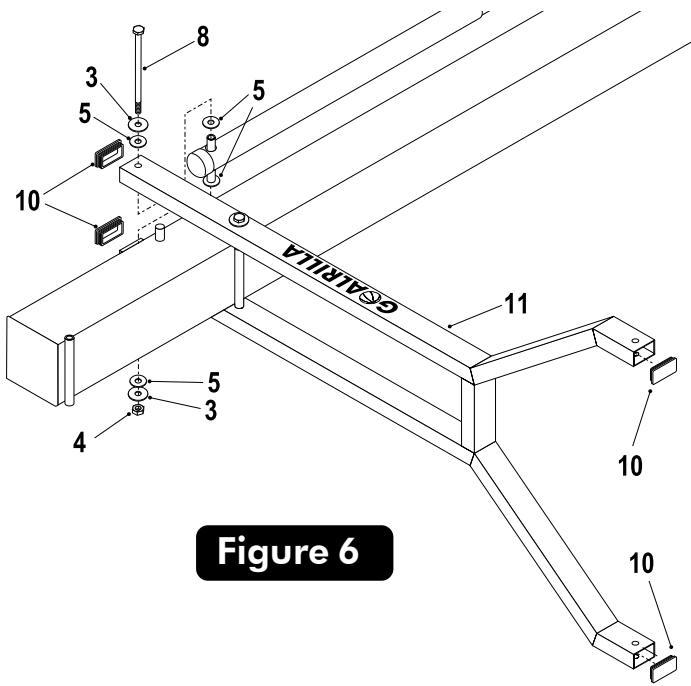

Figure 6
- Secure Actuator (#16) to Lower Arm (#11) using one bolt (#8), two flatwashers (#3), four plastic washers (#5) and one hex nut (#4). See Figure 6. Tighten both bolts (#8) securing Lower Arm (#11).